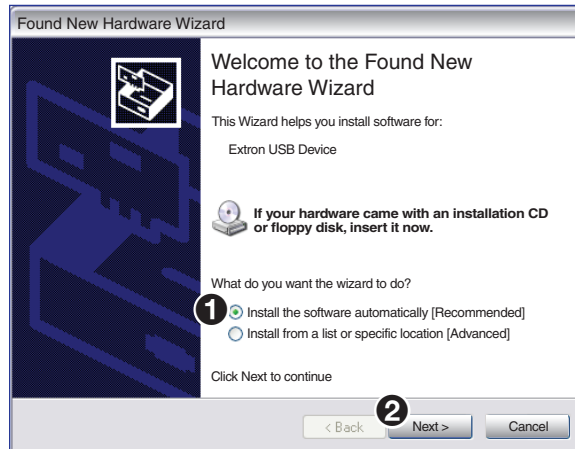

Figure 186. Install the Software Automatically
4. Select **Install the software automatically (Recommended)** (see figure 186, ①).